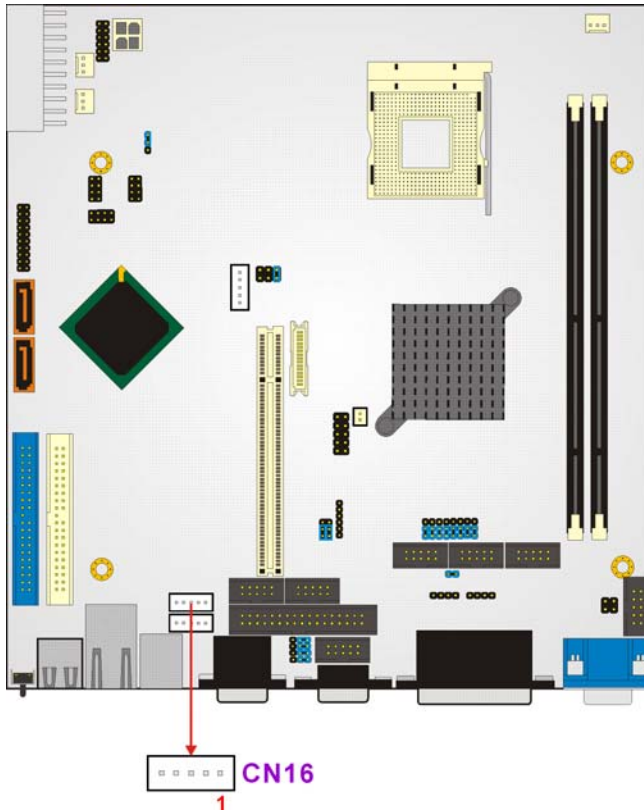

Figure 3-14: Keyboard Connector Location
- CN Location: See **Figure 3-14**